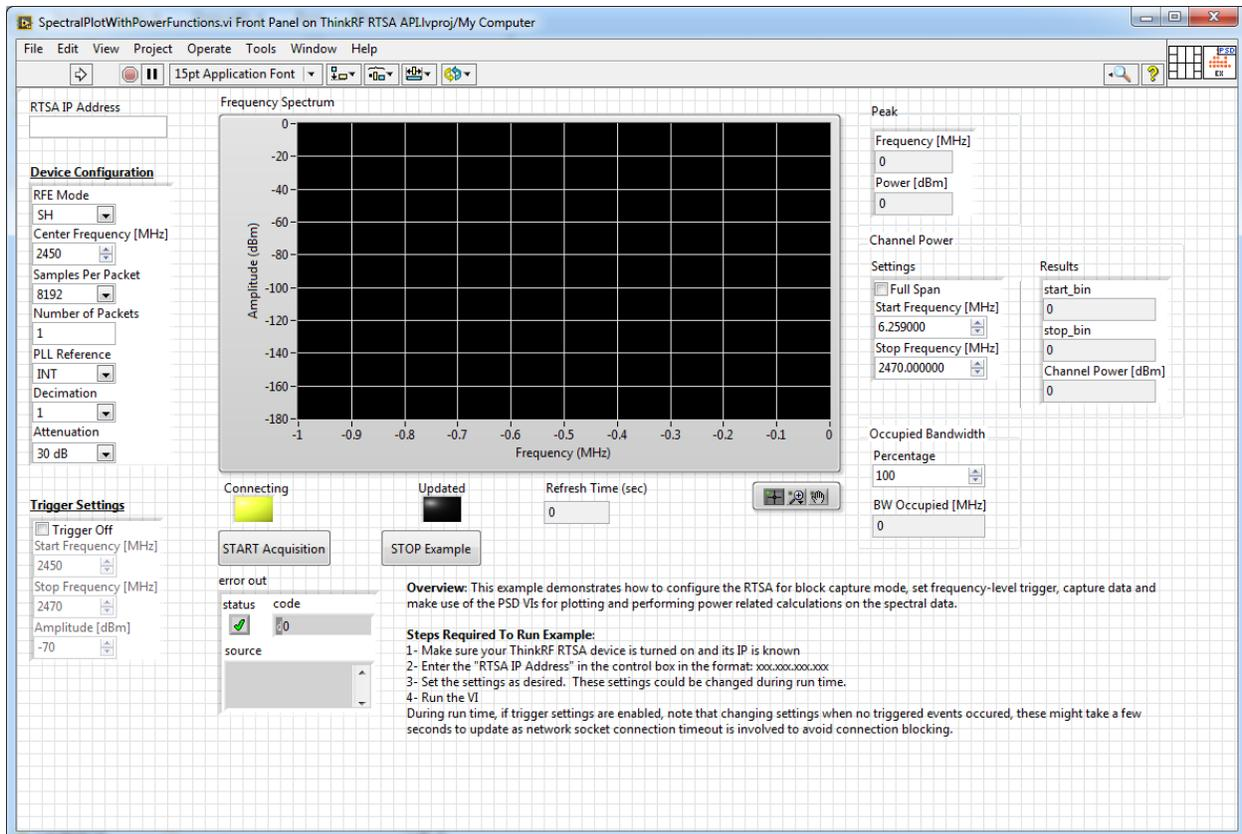

Figure 3: An example of the input fields before running
2. Launching the *SpectralPlotWithPowerFunctions.vi* will launch the control panel and the display (see Figure 3). At this point, it is important to note a few key features: